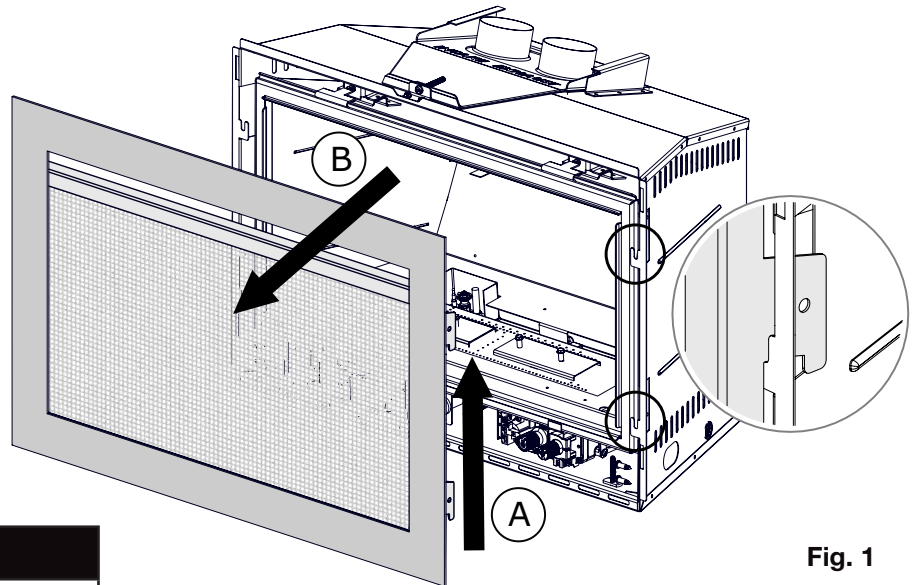

Fig. 1
1. Before the glass door can be removed, the safety barrier/trim must be removed. Lift the safety barrier from the 4 tabs, tilt the top forward, and remove from the appliance (**Fig. 1**).